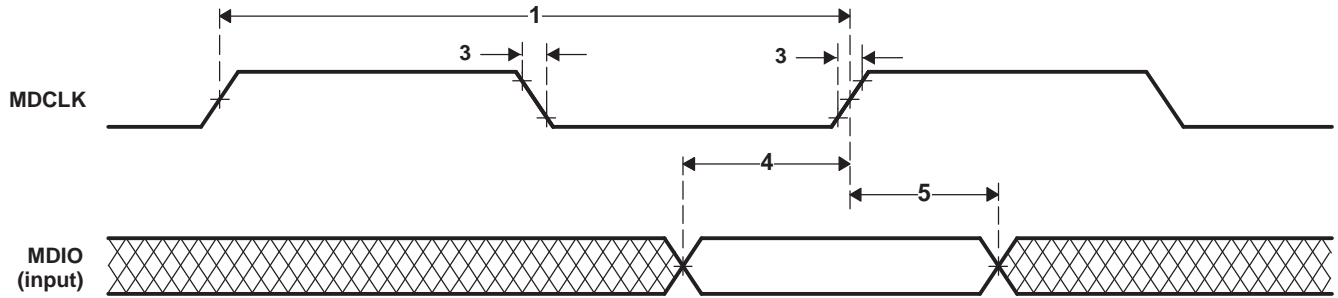
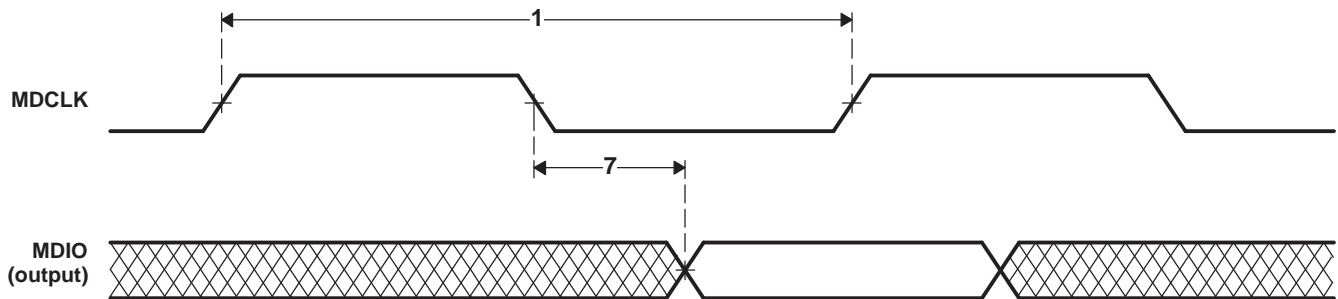

Figure 6-63. MDIO Input Timing
Figure 6-64. MDIO Output Timing
**Table 6-96. Timing Requirements for MDIO Input (see Figure 6-63 and Figure 6-64)**
Table 6-97. Switching Characteristics Over Recommended Operating Conditions for MDIO Output (see Figure 6-64)
**Table 6-102. Timing Requirements for Keyscan (see Figure 6-63 and Figure 6-64)**